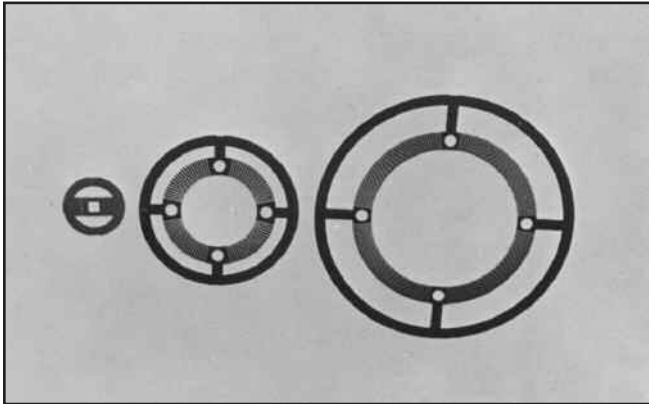

Figure 4-2 Laminar Flow Elements
Figure 4-2 illustrates three (3) of the five (5) available sizes of the laminar flow elements. The smallest flow element shown has only one (1) chemically-etched precision flow channel and would be used as part of a laminar flow element package in a low flow range MFM/MFC, for example Model 111 MFM or Model 201 MFC. In comparison, the largest flow element shown contains numerous flow channels. Varying the number